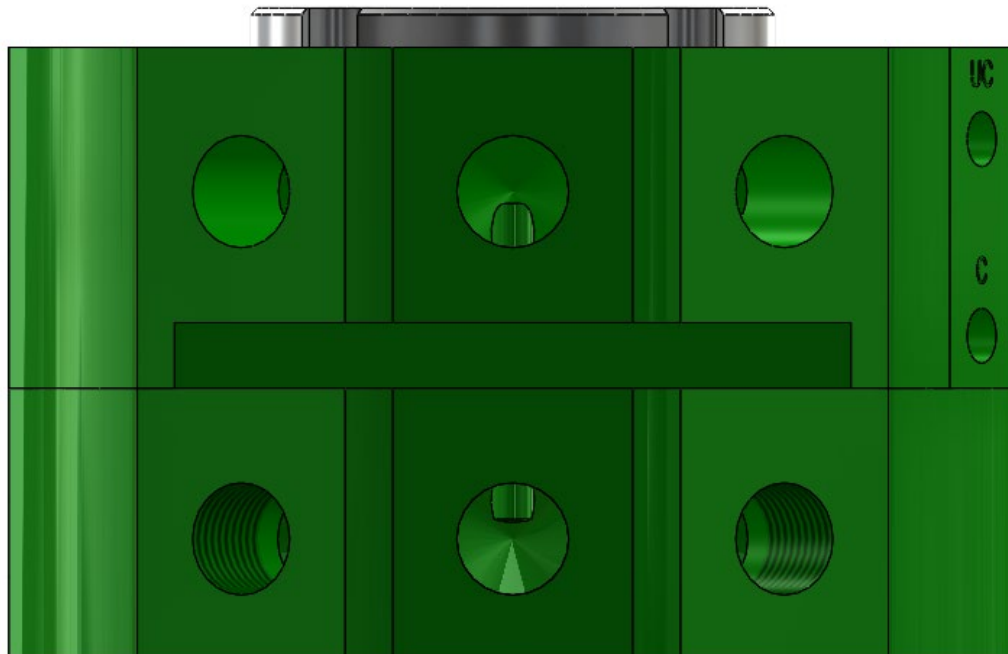

Figure 6.2-2. E63 Tool Changer – Docked Position
5. Stop the motion when the distance between the Robot Side interface surface and Tool Side interface surface are touching or as close as can reasonably be achieved. At this time, any electrical or fluid connections will be made through the use of available side modules. Note that when the interface surfaces of the Robot Side and Tool Side are in contact, the outer edge of the Sides should be touching (Figure 6.2-2).